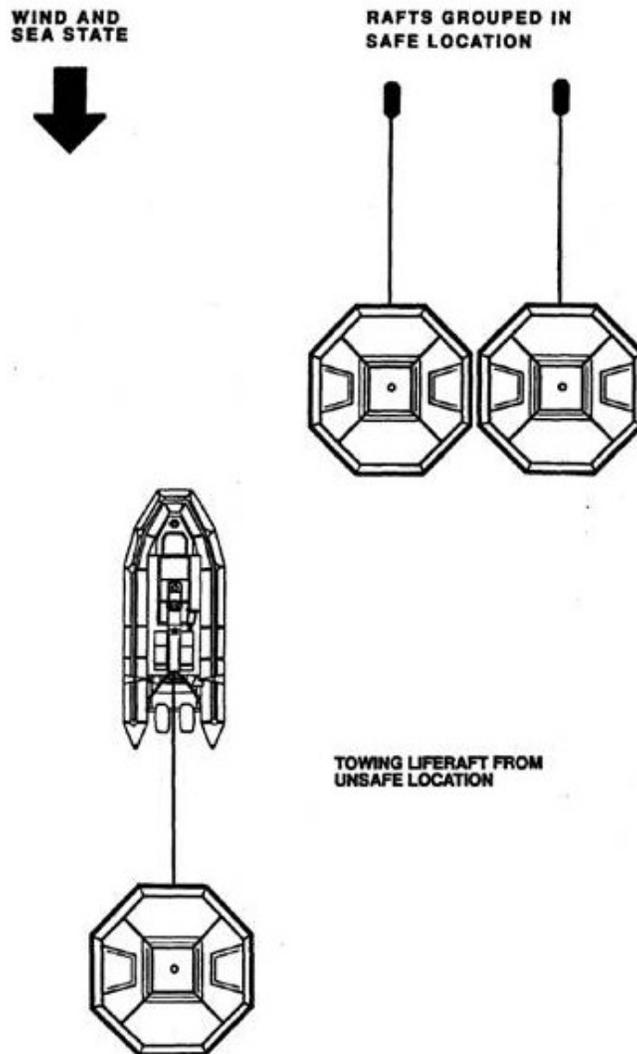

Figure 551-8ST-1034_01 (Marshalling Liferafts)
6. Assist in marshaling liferafts (Figure 551-8ST-1034_01) by grouping them all together in a safe position. (This may require towing some or all of the liferafts. See Step 8, Tow liferafts.)